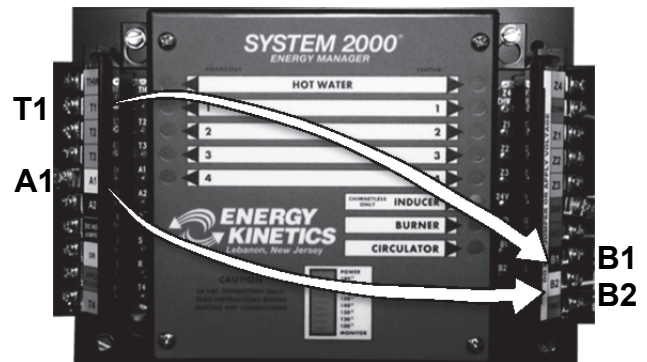

Figure 5B
- 3) On the Display Energy Manager, select **one** thermostat that will control when the boiler runs to add heat to the house. Move that representative thermostat (T1, T2, T3, or T4) from the left side of the manager to B1 (see Figure 5B). Move the other wire from that thermostat from A1 to B2. *B1 and B2 connect internally to TT on the burner.*